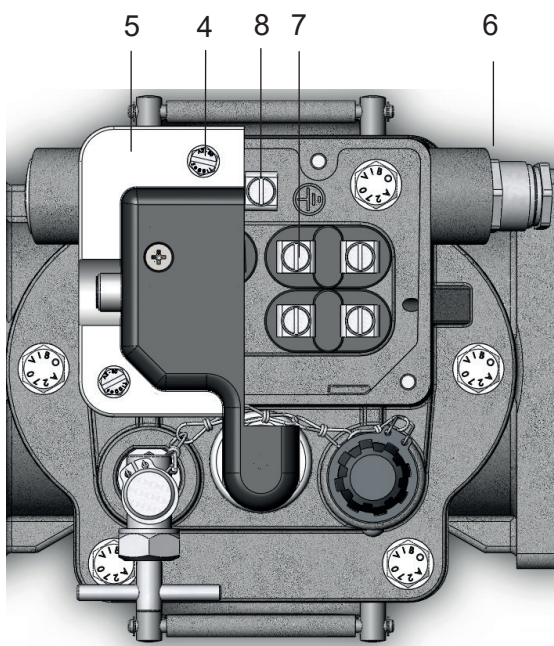

Figure 6 - Electrical connection for up to 8 bushings
- Remove 4 screws M5 (Fig. 6 & 7/ N° 4)
- Remove the cap (Fig. 6 & 7/ N° 5)
- Insert the lead through the cable gland (Fig. 6 & 7/ N° 6)
- Connect the lead to the terminal studs (Fig. 6 & 7/ N° 7):
- Maximum torque 3 Nm for terminal studs with up to 8 bushings (Fig. 6)
Connect the protective conductor (green-yellow insulation) to the earth terminal (Fig. 6 & 7/ N° 8) (maximum torque 3 Nm)